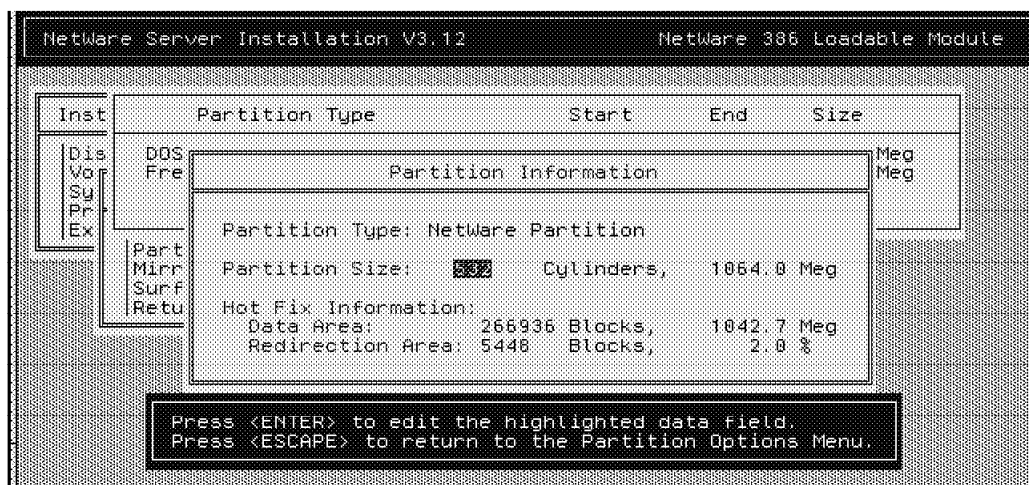

Figure 84. Partition Information
22. Select **Create NetWare Partition** and press Enter. You will see a screen like the one in Figure 84 on page 131.